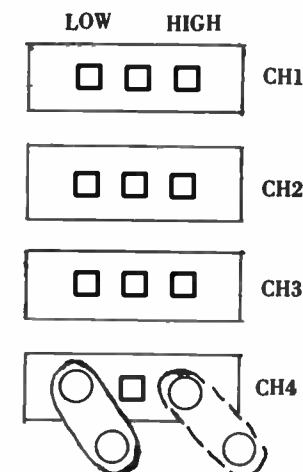

Figure 2
4. Plug only one pin of a HC-25U type crystal (Any frequency can be used) for activating the RF and Mixer circuits into CH 4 crystal socket on the High Band side. See Figure 2.
10. Plug the same crystal into CH 4 crystal socket on the Low Band side in the same way. See Figure 2.